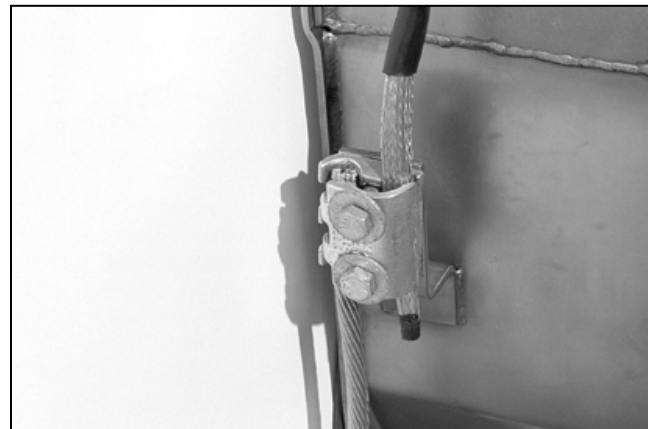

Figure 54. Connect shielded cable to tank ground.
- STEP 2.** Connect the ground pad of the tank to the system ground facility in accordance with the user's standard grounding practice. See Figure 54. Use the equivalent of 4/0 copper (or cable sized in accordance with the user's standard practice) in either a single or multiple connection to realize the maximum momentary rating of the switchgear. For a multiple connection, cables smaller than 1/0 copper or equivalent should not be used.